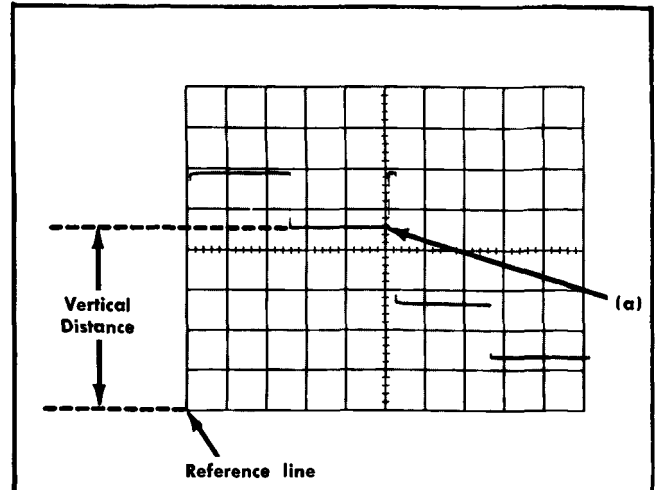

Fig. 2-10. Measuring instantaneous DC voltage with respect to a reference voltage.
7. Measure the distance in divisions between the reference line and the point on the waveform at which the DC level is to be measured. For example, in Fig. 2-10 the measurement is made between the reference line and point A.
Example. Assume that the vertical distance measured is 4.6 divisions (see Fig. 2-10), the waveform is above the reference line, using a 10X attenuator probe and a VOLTS/DIV switch setting of 2.